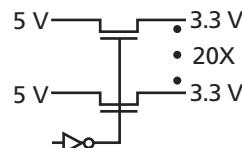

Figure 2-4 • Bus Switch IDTQS32X2384
2. 5 V tolerance can also be achieved with 3.3 V I/O standards (3.3 V PCI, 3.3 V PCI-X, and LVTTL) using a bus-switch product (e.g. IDTQS32X2384). This will convert the 5 V signal to a 3.3 V signal with minimum delay (Figure 2-4).